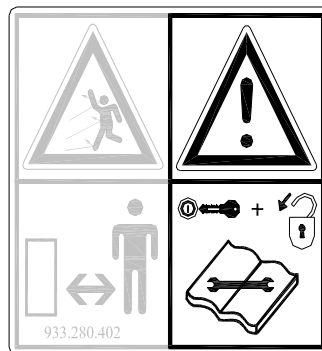
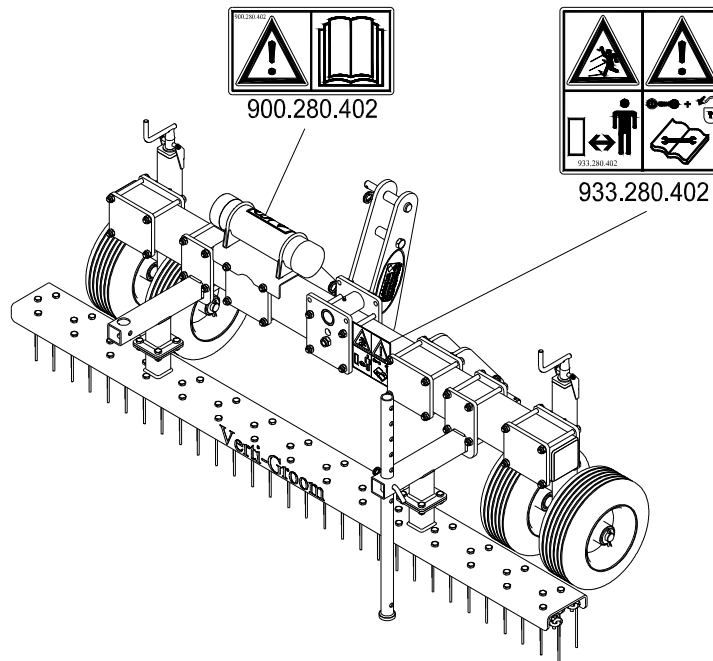

Fig. 2
Fig. 5
Safety stickers (Figs. 2, 3, 4) with the same meaning are present on both sides of the Verti-Groom (Fig. 5). Ensure these safety stickers are always clearly visible and legible. Replace them if they are damaged.
(7) Location of safety stickers (Fig. 5).